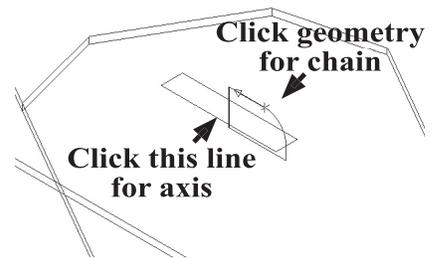

Fig. 56
Step 5. Click the geometry that includes the fillet, **Fig.56**.
Step 7. Click the vertical line center line, **Fig.56**.